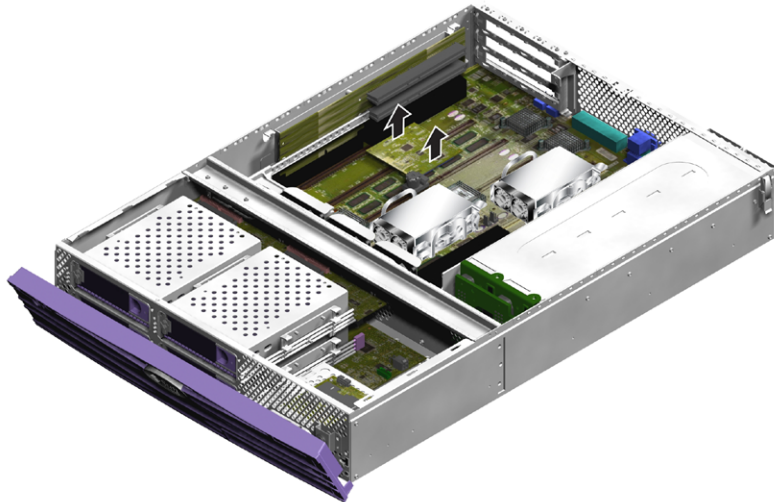

FIGURE 1-28 Removing the Cryptographic Accelerator
3. Lift the cryptographic accelerator away from the chassis (FIGURE 1-28).